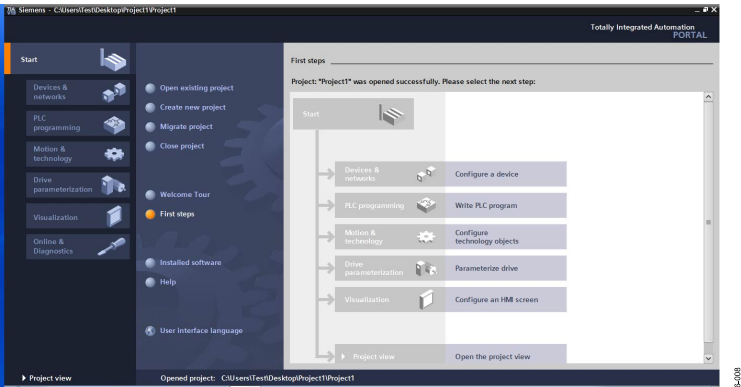

Figure 71. Project Setup View Window
4. Click **Create** to open the open project setup view window (see Figure 71).
5. Click **Project view > Open the project view**. Note that loading this view can take a while (see Figure 71).